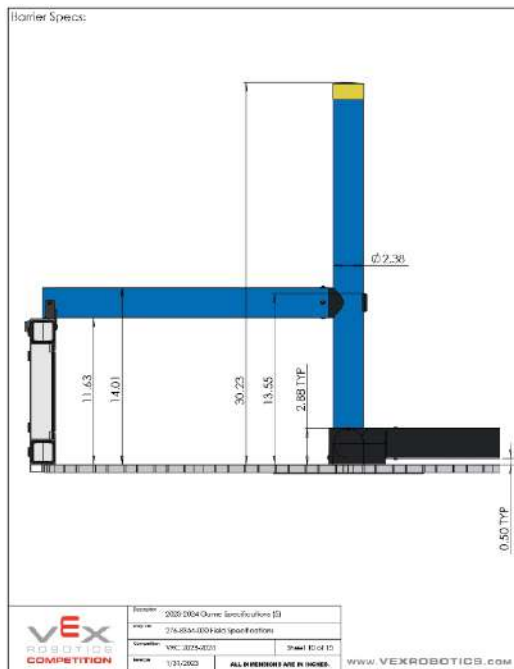

Figure 8: Elevation Bar Dimensioned
- The elevation bars are composed of the same 2.38" pipe, as seen in figure 8
- As seen in Figures 8 and 9, the highest scored zone is above the top of the elevation bar at a minimum height of 32.5"